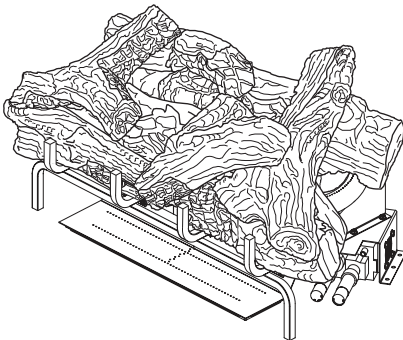

Figure 36- Final Assembly
- Match the round hole on the bottom of the center crossover log (#8) with the metal pin on the top of the right crossover log. Rest the front of the center crossover log on top of the front right log and against the grate. See Figure 36, page 21 for final assembly.